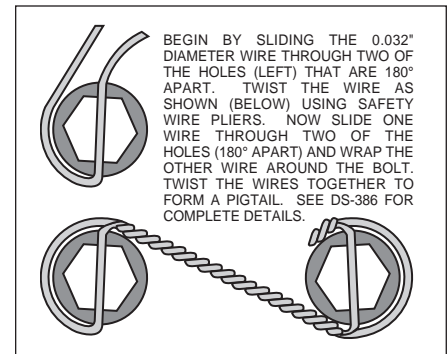

Figure 3. Safety Wire Diagram
• With the larger I.D. side of the rotor (7) facing away from the hat (8), bolt rotor (7) to hat (8) through the backside of the rotor using bolts (9), and washers (10). Using an alternating sequence, apply red *Loctite*® 271 to the threads and torque bolts to 155 **in-lb**. For an added measure of security, the bolts may be safety wired using standard 0.032 inch diameter stainless steel safety wire as shown in Figure 3. Please refer to Wilwood's data sheet DS-386 (available at www.wilwood.com/Pdf/DataSheets/ds386.pdf) for complete safety wire installation instructions.